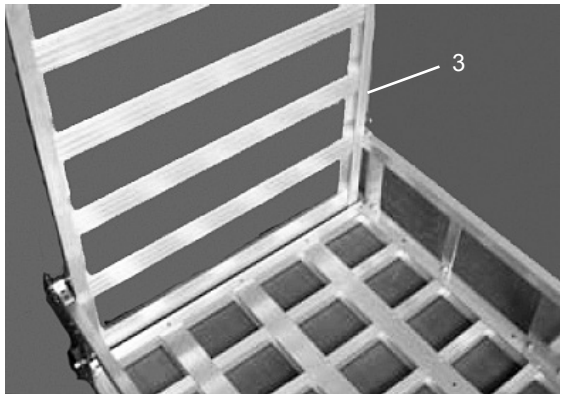

Figure 5
7. Use Large Bolts (17) and Lock Nuts (18) to attach Ramp (3) to open side of the Carrier Bed. See Figure 5.